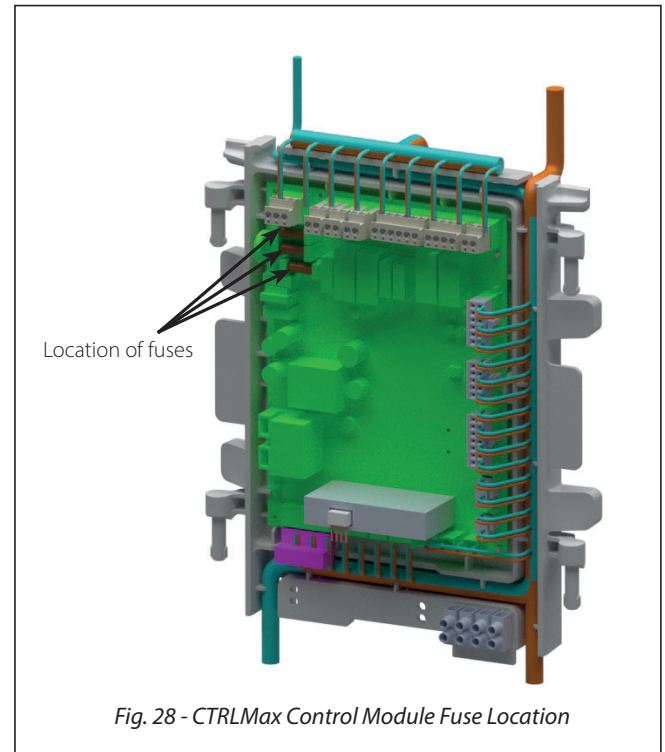

Fig. 28 - CTRLMax Control Module Fuse Location
- The CTRLMax control module contains 3 internal replaceable 5A fuses as shown in *Fig. 28 below*.